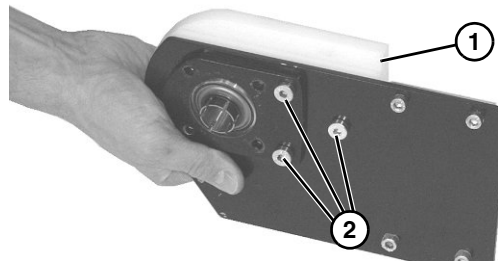

Figure 38
- Check drive terminal assembly (**Figure 38, item 1**) for wear. If worn, remove three low head cap screws (**Figure 38, item 2**) and replace.